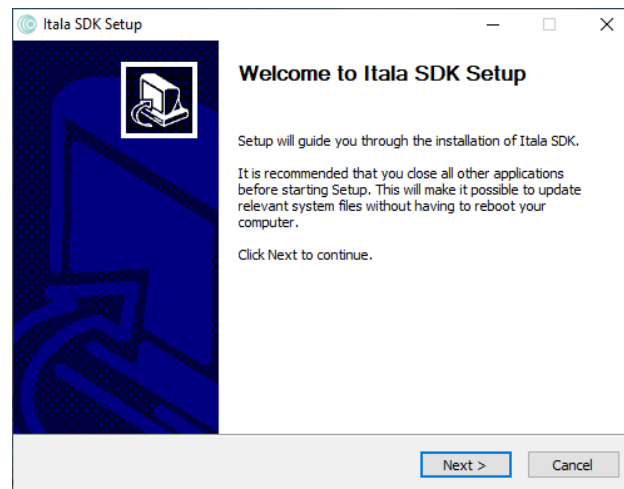

Figure 6: Itala SDK setup window.
2. The Itala SDK setup window is displayed: make sure to follow the instructions listed (Fig.6).